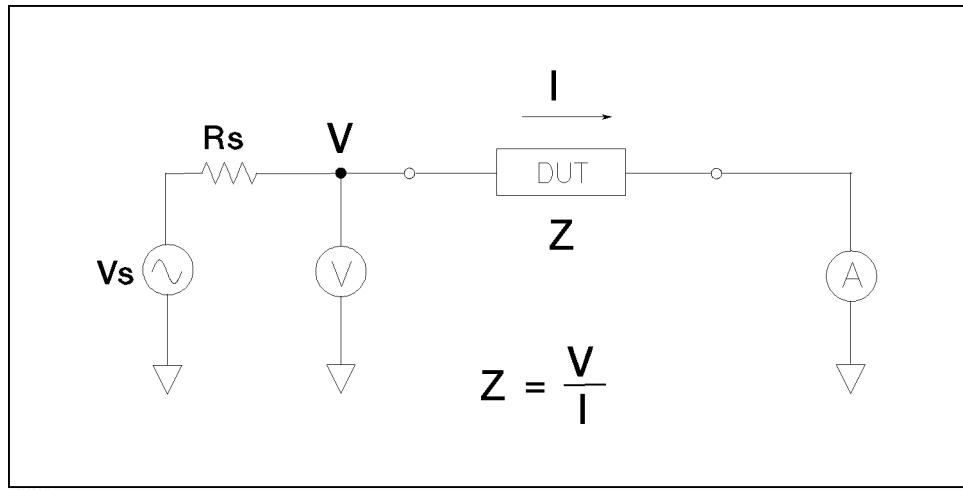

Figure 3-6. Simplified Model of Impedance Measurement
Figure 3-6 shows the simplified model of the HP 4263B impedance measurement. Vs is the test signal level (voltage) and Rs is the source resistance. If the current across the DUT is I when a test signal voltage V is applied, the DUT's impedance, Z, is expressed by,
Figure 3-6 shows the HP 4263B's simplified model. The actual current level applied to a DUT depends on the test signal level (V_s), the DUT's impedance value (Z), and the HP 4263B's source resistance (R_s) which is in series with the DUT. The actual current level (I) through the DUT is calculated using the following equations.